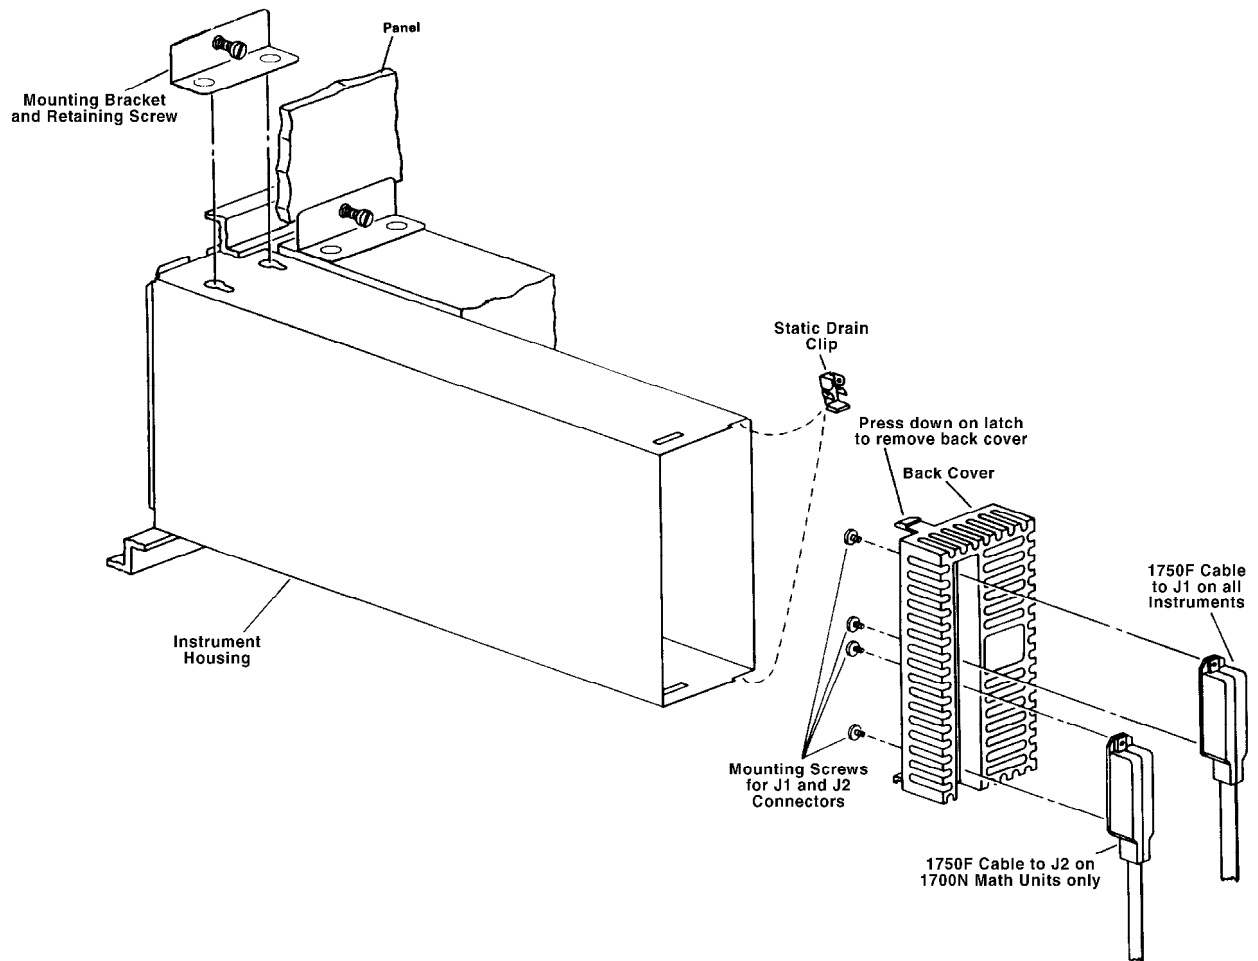
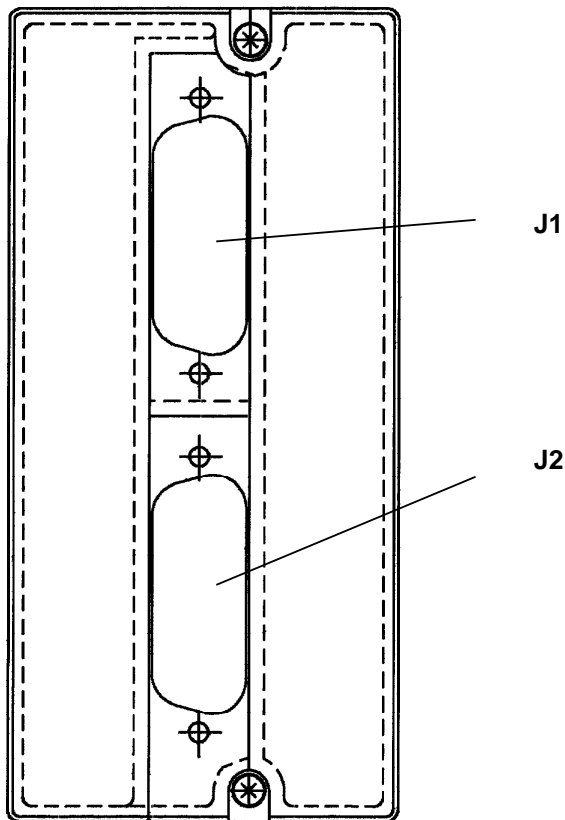

Figure 3-2. Removing MOD 30 Instrument Housing
Figure 3-4. Cable Connector Locations In Back Cover
3. Remove the back cover, Figure 3-2, from the housing.
6. Connect the MOD 30 J1 cable to the J1 location in the back cover, Figure 3-4. The cable is attached to the cover using two mounting screws as shown in Figure 3-2 (cable mounting screws are supplied with the instrument). Two cables are used when a math unit is replaced; connect the second cable to location J2.